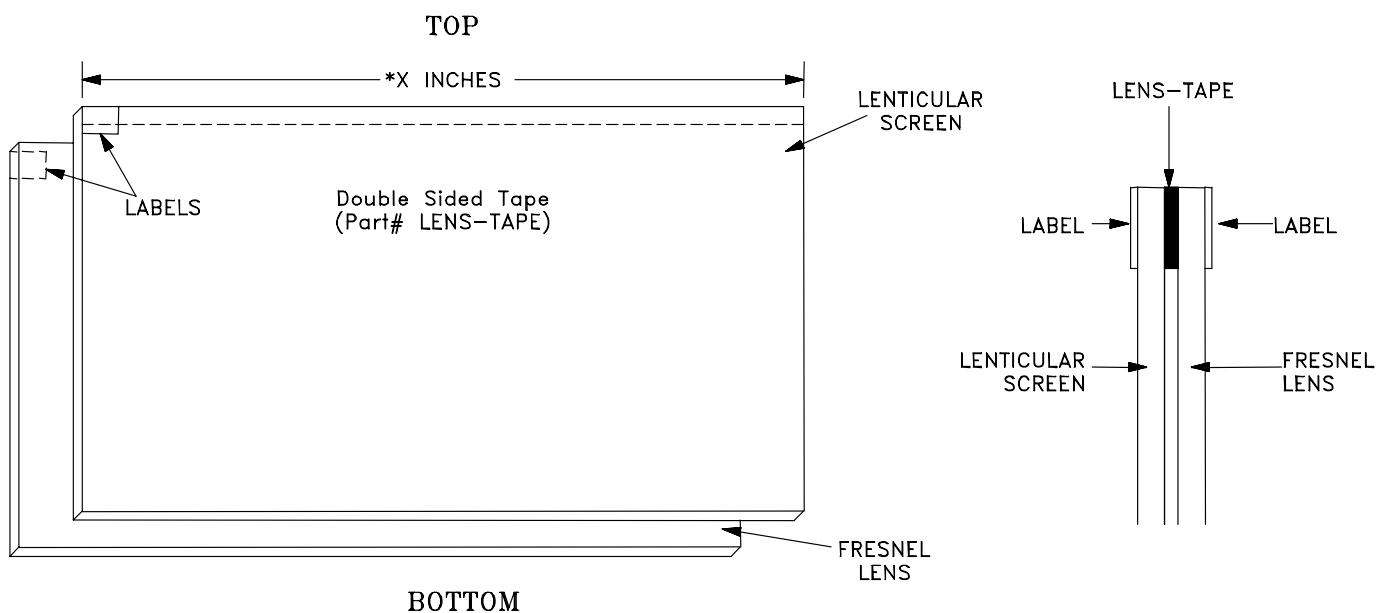

Figure 4: Installing the Fresnel Lens & Lenticular Screen
2. Sandwich the Fresnel Lens and Lenticular Screen together. The Lenticular Screen label must be towards the front and the Fresnel Lens label towards the rear. (*Figure 4*)